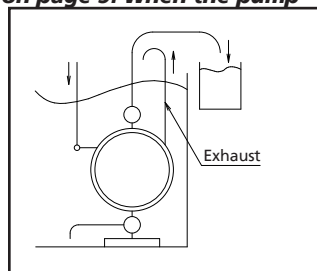

Figure 11
- Air/gas exhaust should be directed outside, not into the fluid in which the pump is submerged. For information on how to arrange the exhaust, see Note – Arranging outside exhaust and Figures 11 & 14.